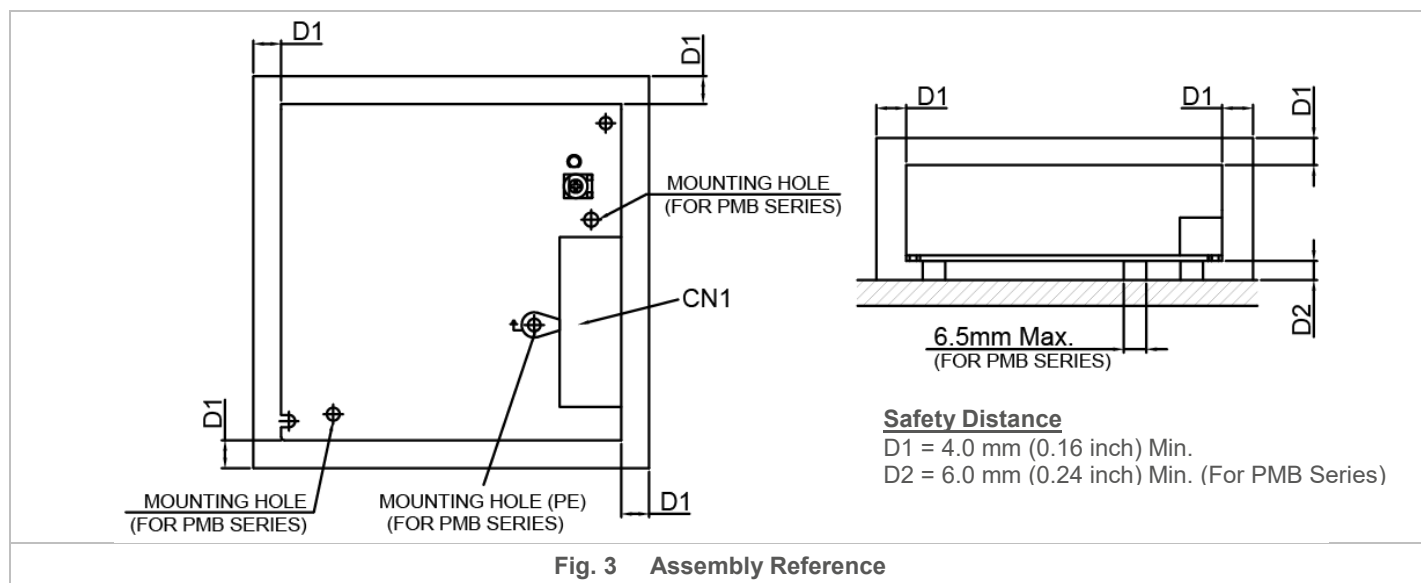

Fig. 3 Assembly Reference
- **PM□-24V50W1AA□ / PM□-24V50W1AG:** Use flexible cable (stranded or solid) of AWG No. 22-12. User should calculate and select the suitable wire specification (type/quantity/diameter) according to actual output current. The torque at the Connector shall not exceed 13 Kgf.cm (11.23 lbf.in). The insulation stripping length should not exceed 0.275" or 7mm (Refer to Fig. 3).
- **For PMB Series: (Refer to Fig. 3):** The mounting holes on any mounting accessories for the device should be kept at a diameter of < 6.5 mm (0.26 inch). This is to ensure sufficient safety distance between the mounting screw and the components around the mounting holes on the PCBA. Therefore, the diameter of the mounting screw should be kept at < 6.5 mm (0.26 inch).